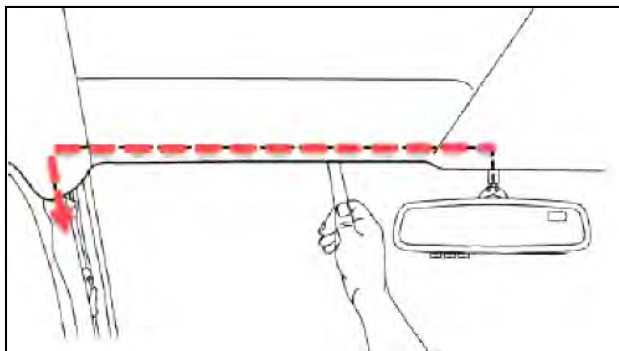

Figure 16
16. Route mirror main power harness along front edge of headliner towards the LH vehicle A-Pillar. See Figure 16.